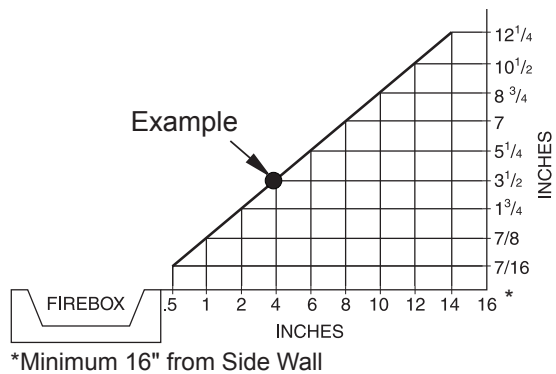

Figure 4 - Minimum Clearance for Combustible to Wall
- where curtains, furniture, clothing or other flammable objects are less than 36" from the front and 42" from top heater, For side clearances see *Figure 4, Page 10*
A. Clearances from the side of the fireplace cabinet to any combustible material and wall should follow diagram in **Figure 4**.
Example: The face of a mantel, bookshelf, etc. is made of combustible material and protrudes 3-1/2" from the wall. This combustible material must be 4" from the side of the fireplace cabinet (see **Figure 4**).